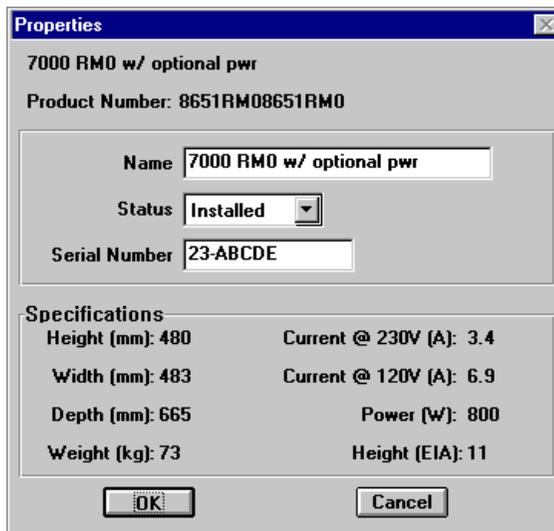

Figure 22. Server Properties Window
1. Ensure your server component has these settings (see Figure 22):